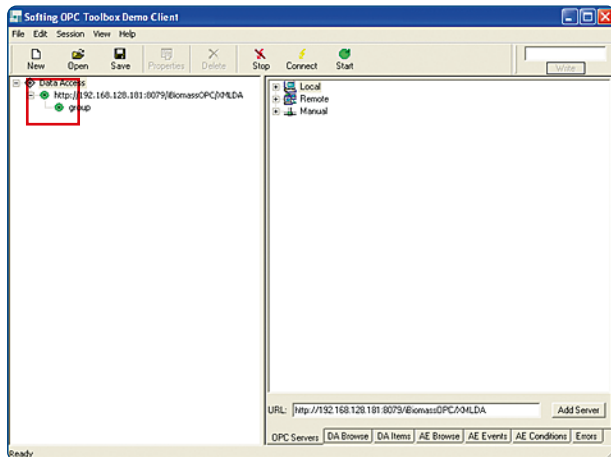

Figure 66: Connected Arc View Controller in the Classic Demo.
3. If the OPC Server URL is correct, the following screen (Figure 66) is displayed with a green light beside the OPC server: